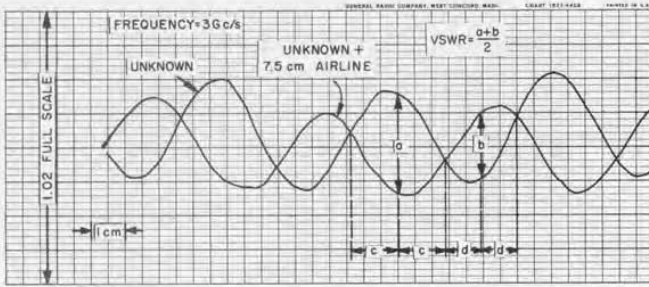

Figure 6. Multiple recording used in substitution-method VSWR measurement.
In the substitution method, a multiple plot is recorded, showing (1) the vswr of the unknown connected directly to the slotted line and (2) the vswr with the reference air line inserted between the unknown and the slotted line. (See Figure 6.) With the impedance transformation of a quarter-wave air-line section, the difference between the two curves represents twice the vswr of the unknown impedance with respect to the reference air line. The residual vswr of the slotted line effectively cancels out.